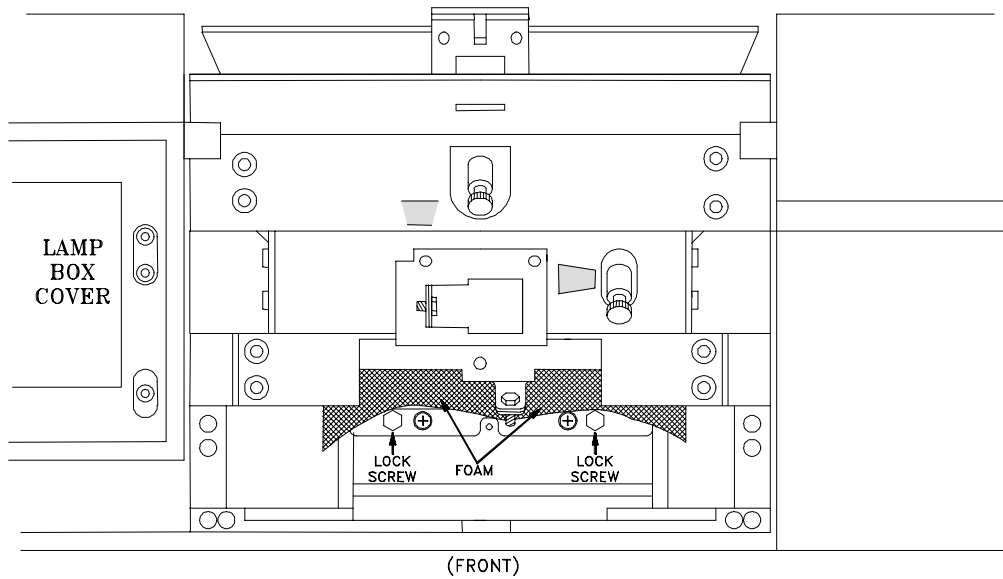

Figure 4A: Rotation Adjustment Lock Screws
1. From the front of the TV, lift the foam to access and loosen slightly, the brass Rotation Locking Screws on the Adjuster Assembly, *Figure 4A*. (Use a 10mm wrench.)